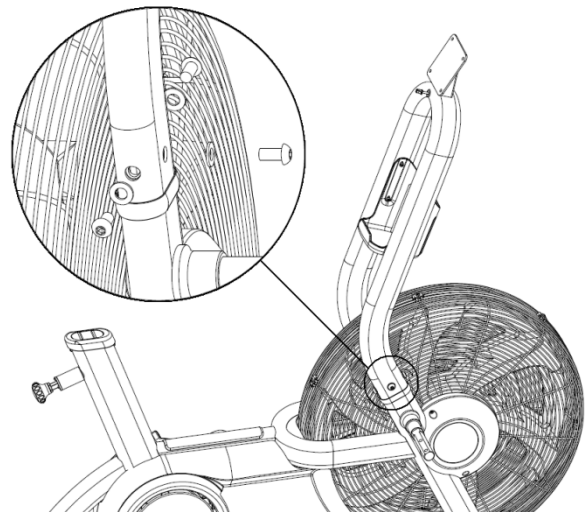

Fig. 6
5. Slide the console mast (Fig. 6) over the neck joints of the base and align the three securing bolt holes.